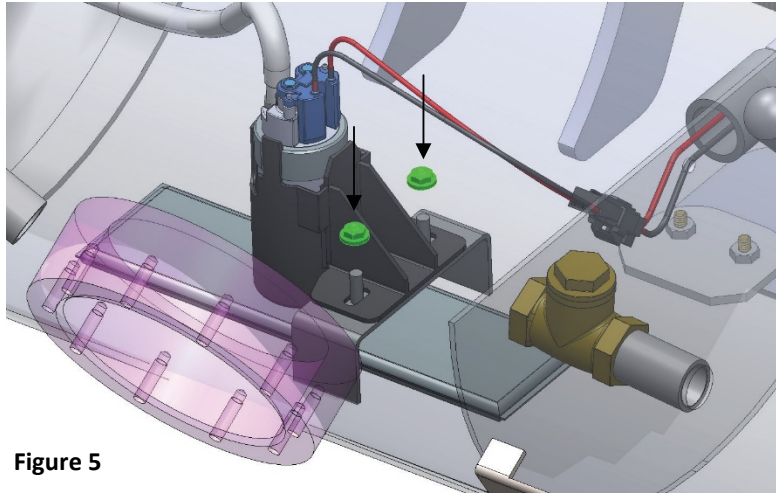

Figure 5
3. Install nuts (Qty 2) to fuel pump hold down bracket posts. (Torque: FSNS - Fully seated not stripped) (Figure 5)